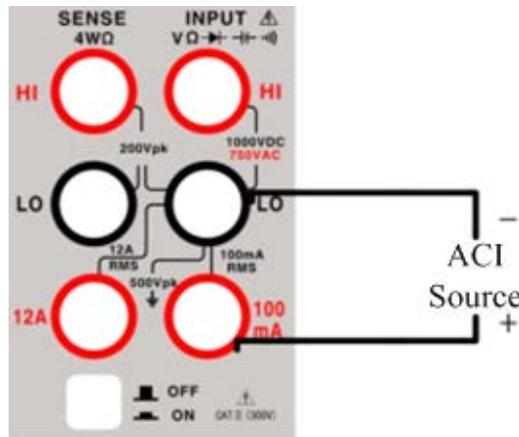
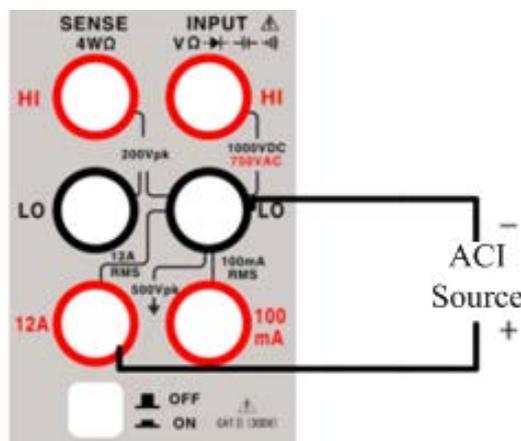

Figure 2.2.5 Method of connecting test terminals for low current
Figure 2.2.6 Method of connecting test terminals for high current
2. Choose different test terminals according to the measurement level. See Fig. 2.2.5 for current of 200mA and below, and connect the red and black test leads respectively to the proper input terminals. See Fig. 2.2.6 for current from 200mA to 10A, and connect the red and black test leads respectively to the proper input terminals.